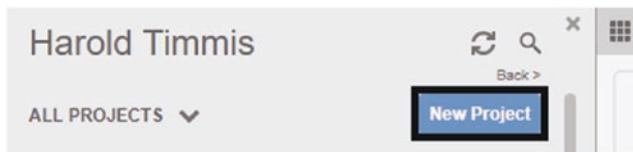

Figure 3-21. Select New Project
2. Select New Project. See Figure 3-21.